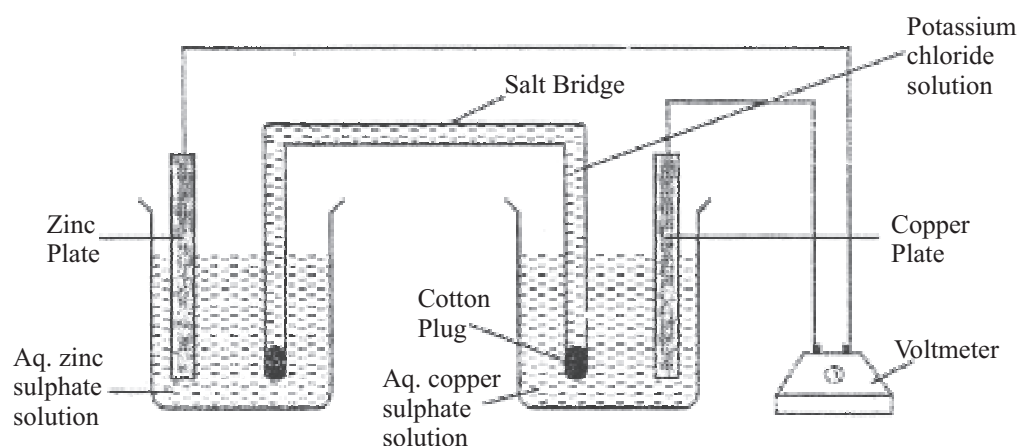

Fig 6.1: Arrangement of the electrochemical cell
- (iv) Connect both the solutions through salt bridge as shown in Fig. 6.1.